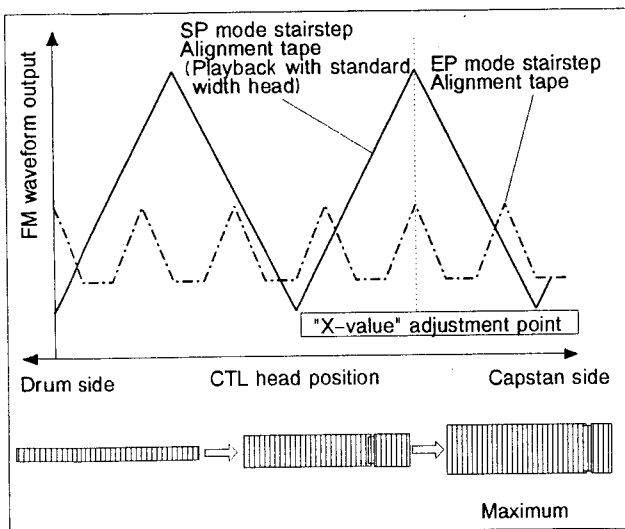

Fig. 2-7-5 A/C head phase adjustment-2
- 2) Connect the oscilloscope to TP306 (PB FM) on the MAIN board. Use TP411 (DRUM FF) as a trigger. Confirm that the FM waveform appears, as in Fig. 2-7-5.
- 5) Turn the tool first to position the A/C head fully toward the capstan. Then gradually return it toward the drum and stop at the position of maximum FM waveform output level as shown in Fig. 2-7-5.
- 6) Tighten screw ⑤. Remove the tool and tighten screw ④.
- 8) Confirm maximum playback FM waveform output level as shown in Fig. 2-7-5.
- 9) If not maximum, slightly loosen the screws ④ and ⑤. Use the tool and adjust the head position for the nearest maximum point. Then tighten screws ④ and ⑤.